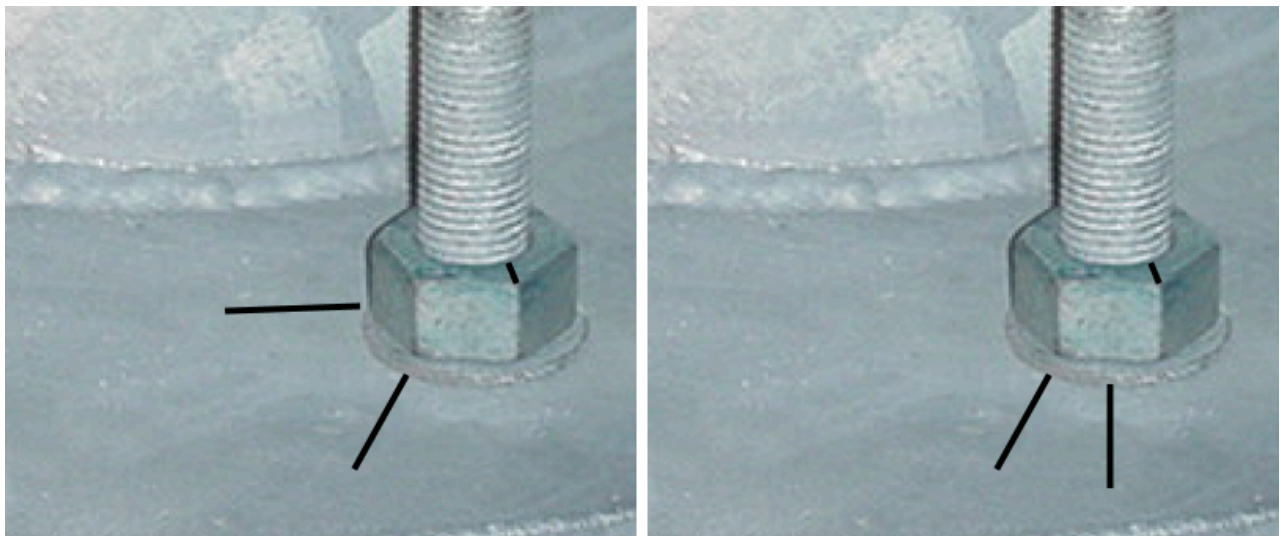

Figure 3 - Snug Tight Condition Reference Marks For Bolts 1-1/2" Diameter Or Less (Left) And Bolts Greater Than 1-1/2" Diameter (Right)
- 4.2 After all nuts have been snug tightened and the necessity or unnecessary for repeating the snug tightening procedure with beveled washers has been determined and performed if required, snug tight condition reference marks are to be placed on the nut and base plate using a permanent marker to prepare for the full tightening procedure(see Figure 3 below). One reference mark is to be placed on the top of the nut at one of the corners. One reference mark is to be placed on the base plate such that this reference mark and the reference mark on top of the nut will be aligned when the nut is rotated one half of the amount specified in Section 4.3.1. An additional reference mark is to be placed on the base plate such that this reference mark and the reference mark on top of the nut will be aligned when the nut is rotated the complete amount specified in Section 4.3.1. All reference marks are to be placed such that they will remain visible when the tightening wrench is placed on the nut.